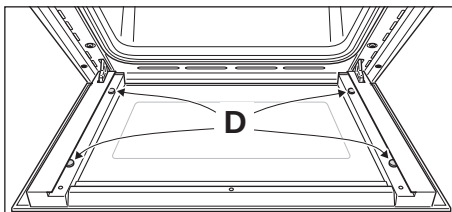

Fig. 7.14a
- Check that the four rubber pads are in place ("D" in fig. 7.14a).